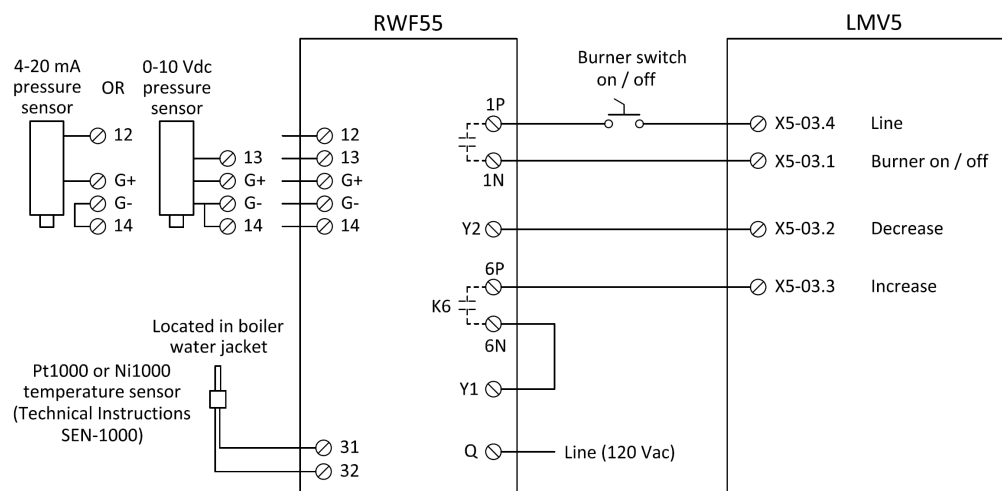

Figure 9: Low Fire Hold via 3-position Output on a Steam Boiler
3. Wire the LMV5 and RWF55 as shown in Figure 9: